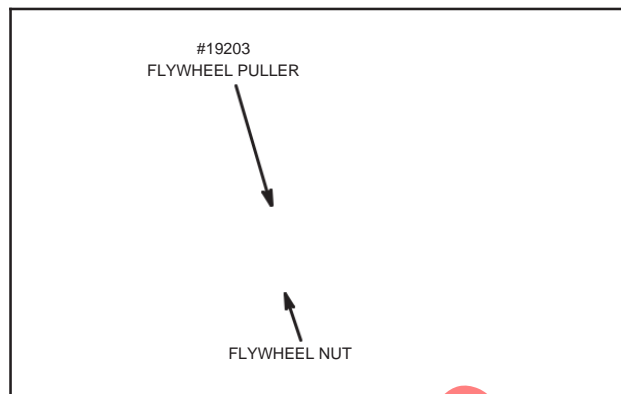

Fig. 5 – Removing Flywheel
6. Tighten puller screws equally until flywheel loosens, Fig. 5.